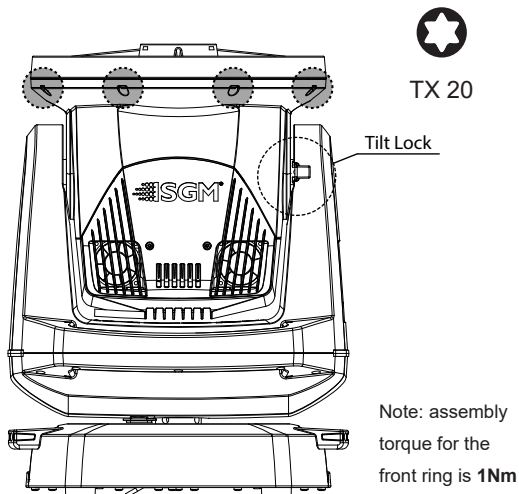

Figure 14
3. Loose up the 8 screws behind the front ring to remove it (figure 14).